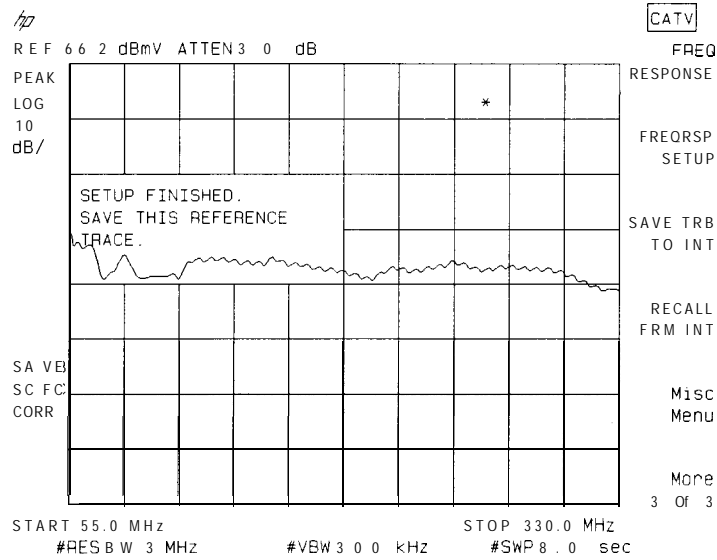

Figure 2-16.
4. If FAST SWEEP is pressed, the analyzer sweeps at the selected sweep time, or at the 2-second default value. For SLOW SWEEP the default is 8 seconds. During this setup step, the analyzer converts the reference spectrum into a reference trace, which connects the carrier peaks into a continuous line. When the setup is finished, the conditioned reference spectrum appears, as shown in Figure 2-16, along with the message SETUP FINISHED SAVE THIS TRACE.